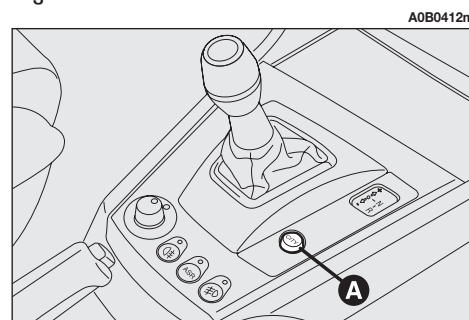

fig. 17
**Fig. 17** shows the position of button **A** for selecting the automatic **CITY** mode.